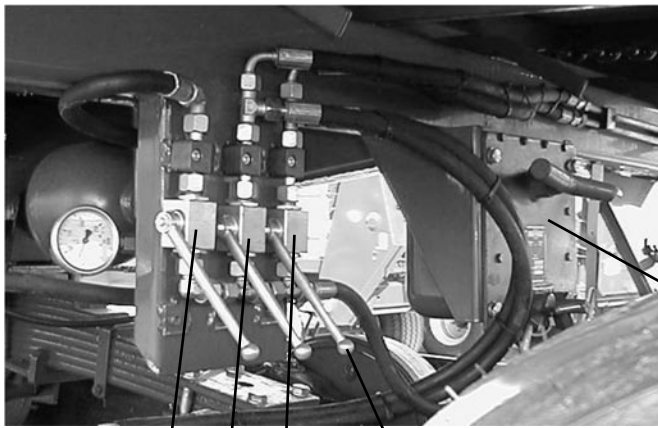

Fig. 9
- After fitting is completed, open the stopcocks 1-3 fig. 9 under the vehicle completely for track-adjustment of steering. Pump up the steering system to 60 bar with the pump (7) which is mounted on the vehicle.
- Use the bolt (5) to secure the steering rod before manoeuvring the machine.